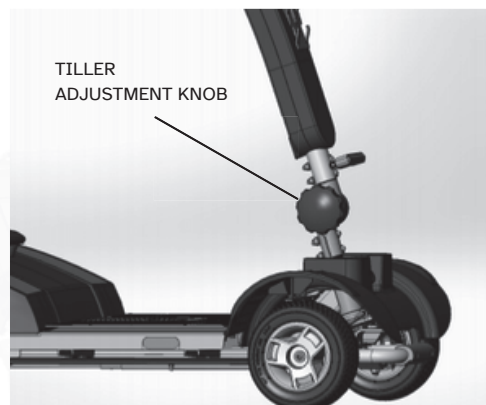

Figure 9. Tiller Adjustment
1. Loosen the tiller by turning the tiller adjustment knob counterclockwise. Refer to Figure 9.